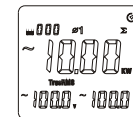

Figure 7-2
- As shown in Figure 7-2, please press “ Σ ” key to measure total three-phase power. Current measured power of the 1st phase location also shall be calculated and saved.